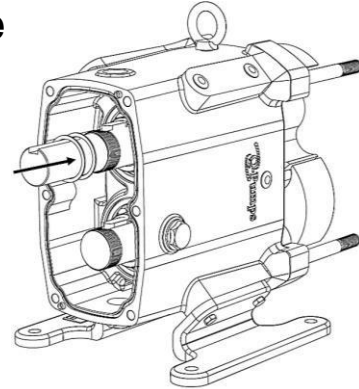

**Figure 56: Checking Rotor Timing**
8) Rotor timing is critical for the proper pump operation. Once the gears are locked in place install the rotors to the bare shafts and secure them with the rotor screws. For bi-wing rotors the distance between the rotor tips should be equal (Figure 56, A). For tri-lobe rotors measure the clearance between the lobes (Figure 56, B and C). Correct rotor clearance can be found on page 33. If the clearances are incorrect proceed to step 9, otherwise skip to step 10.